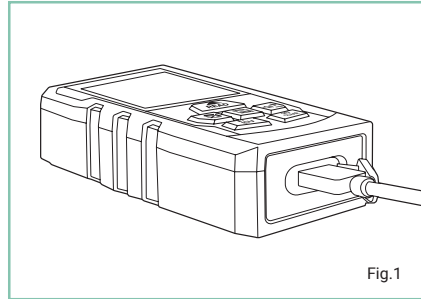

Fig.1
- Insert the charging cable into the charging port on the bottom of the laser measurer (Fig.1).